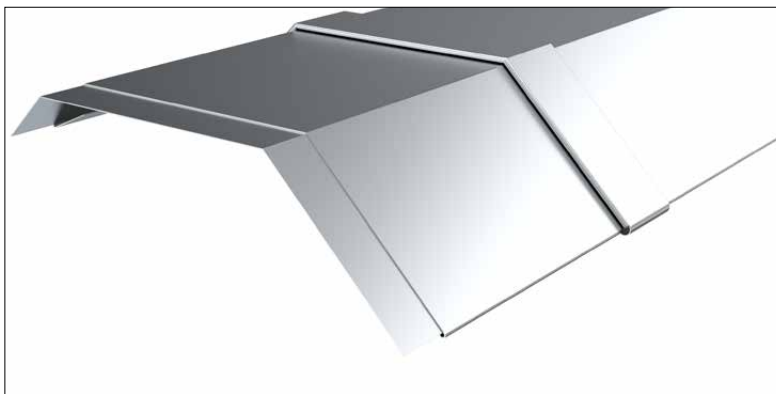

Figure 9.1.4
- the zinc cappings must be soldered to one another up to a maximum of 12 meters length with an overlap of at least 15 mm. After every 12 meters an expansion sleeve must be fitted at one's option, see figure 9.1.4.